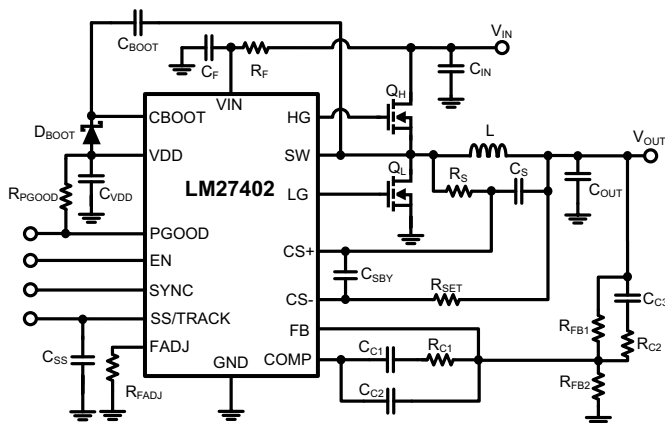

Figure 26. Typical Application Circuit
As with any DC/Dc converter, numerous tradeoffs are required to optimize the design for efficiency, size, or performance. Such tradeoffs are highlighted throughout the following discussion. To facilitate component selection, the circuit shown in Figure 26 may be used as a reference. Unless otherwise indicated, all formulae assume units of Amps (A) for current, Farads (F) for capacitance, Henries (H) for inductance and Volts (V) for voltage.
Figure 26 shows R_F and C_F acting as an RC filter to the VIN pin of the LM27402. The filter is used to attenuate voltage ripple that may exist on the input rail particularly during high output currents. The recommended values of R_F and C_F are $2.2\ \Omega$ and $1\ \mu\text{F}$, respectively. There is a practical limit to the size of R_F as it can cause a large voltage drop if large operating bias currents are present. The VIN pin of the LM27402 must not exceed 150 mV difference from the input voltage rail (V_{IN}).